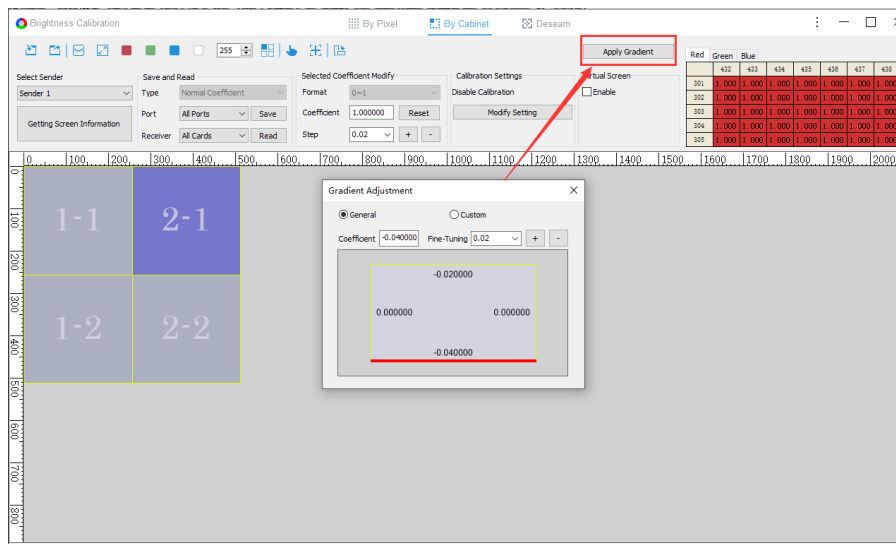

Fig 8.1.2.1 Set gradient adjustment coefficients
Step 4: Under **Gradient Adjustment**, enter the desired coefficient value. Click the **Apply Gradient** button to save the new coefficient values, as shown in Figure 8.1.2.1.